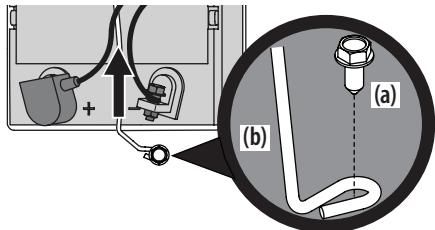

Figure 14
- Remove the hex washer screw (a) securing the battery hold-down rod (b) to the frame. Then flip the battery hold-down rod (b) up to free the battery. See Figure 14.